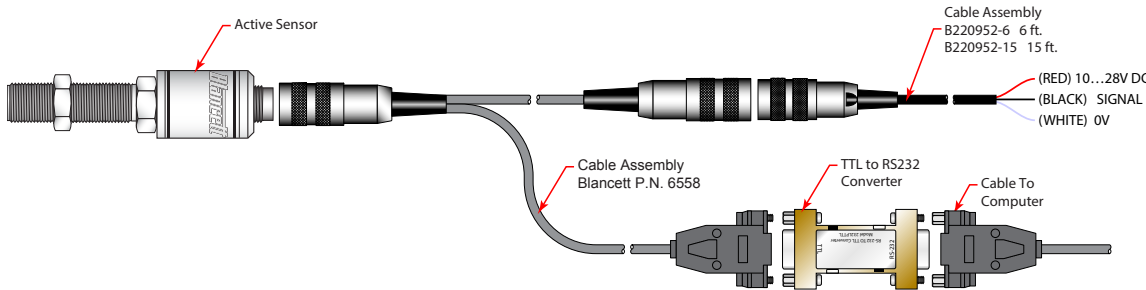

Figure 8: 6558 programming cable connections
NOTE: The TTL-to-RS232 converter may be as shown in Figure 8 or it may be a black molded model.
2. Attach the programming cable (*Figure 8*) to the active sensor through a Com port on your PC.